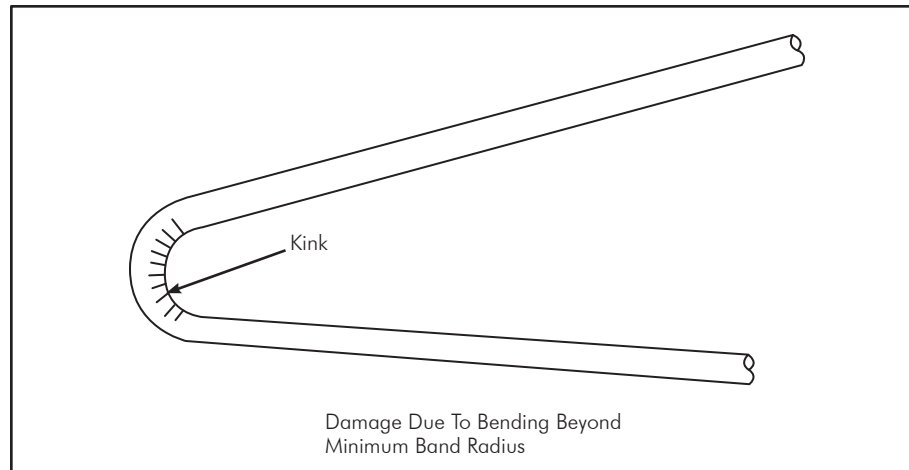

FIG. 5-4 Repair Is Necessary
- The tubing has been bent beyond it's minimum bend radius so that a crease or kink appears (**FIG. 5-4**).